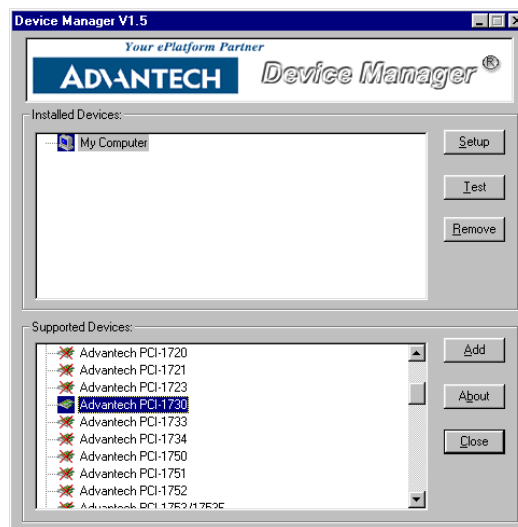

Figure 2.4 Device Manager Dialog Box
2. You can then view the device(s) already installed on your system (if any) on the Installed Devices list box. Since you haven't installed any device yet, you might see a blank list such as the one below (Fig. 2-4).